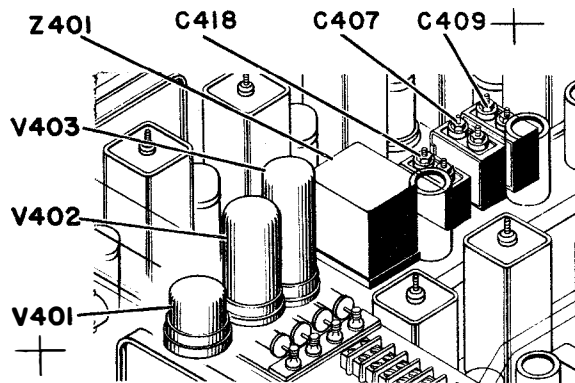

Figure 1-7. Audio-Frequency Amplifier
(4) AUDIO-FREQUENCY AMPLIFIER.—The audio-frequency amplifier is mounted on the chassis next to the i-f section in the receiver but is shielded therefrom. It comprises three tubes, V401 to V403, a filter assembly, Z401, and three capacitors mounted on top of the chassis, as shown in Figure 1-7. The other components of the circuit are located beneath the chassis.